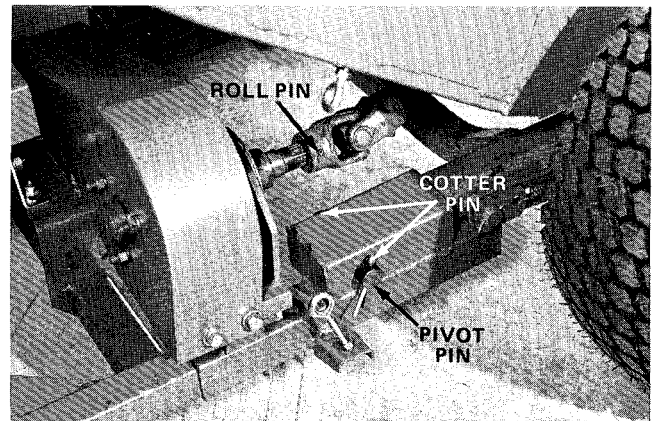

Figure 9
3. Move traction unit toward snowthrower and slide lift arms into lift brackets. Line up mounting holes and secure snowthrower to lift arms with pivot pins and cotter pins (Fig. 9).
4. Slide PTO shaft onto shaft of snowthrower and secure with roll pin (Fig. 9).
5. Loosely install eyebolts to snowthrower lift brackets (Fig. 9).